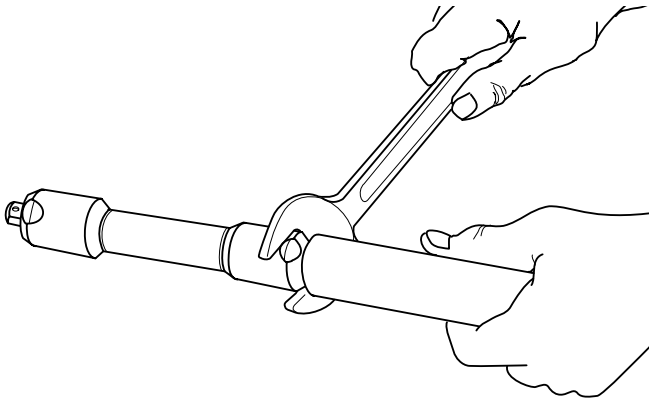

Figure 14. Remove fuse cartridge.
- Use a 3/4 inch (19 mm) wrench to remove fuse cartridge from fuse cartridge holder. (See Figure 14.)